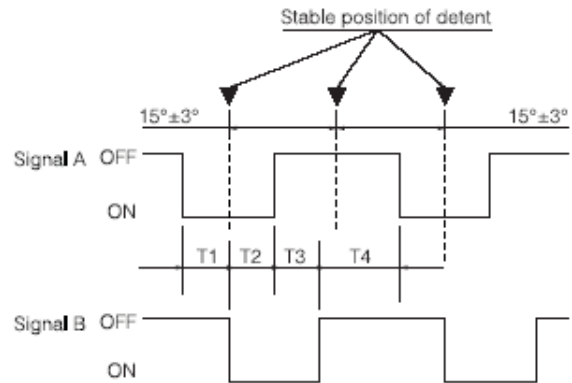

Figure 19. Z-Wheel A and B connections
- Connect the "A" terminal of the rotary switch to "ZA" and the "B" terminal to "ZB". ZA MUST be connected to "Signal A" in Figure 19 where the z-wheel detents are mechanically stable.